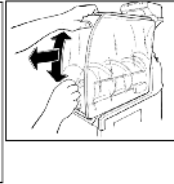

Fig. 2
- Slightly move up and down the bowl as shown in (see fig. 2) while pulling it outwards, this operation will help fully removing it from its seating.